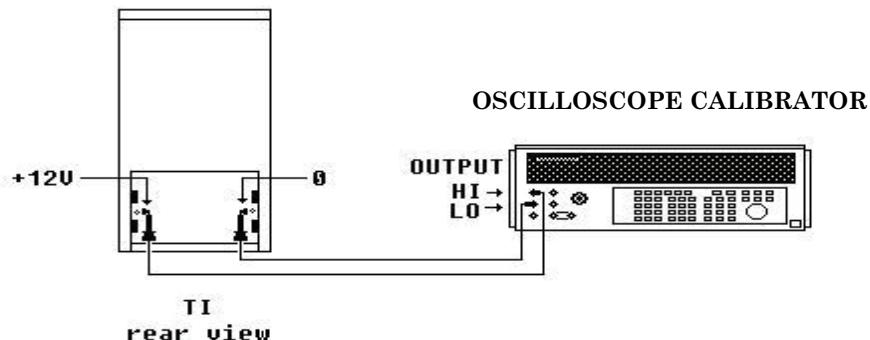

Figure 8. 12 V hookup.
- (1) Before doing the complete adjustments, exit program and use oscilloscope software Refresh Utility Disk, supplied with TI, to refresh Flash ROMS.
- (2) A person should be familiar with the Refresh Utility Disk before starting the Calibration constants restoration.
- (3) Press TI **ON/OFF** key to **OFF** and remove all connections.
- (4) Remove TI battery compartment cover and battery pack.
- (5) Connect **PM 8907/803 AC/DC ADAPTOR** supplied with TI to a 115 Vac power source.
(6) Insert **PM 8907/803 AC/DC ADAPTOR** low voltage plug into TI right side **POWER ADAPTOR** connector.
(7) Connect equipment as shown in figure 8 below: